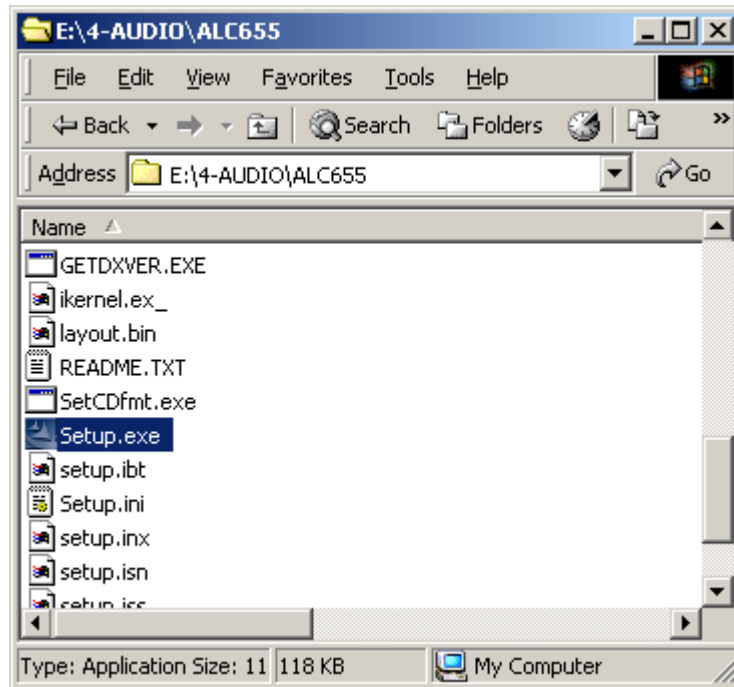

Figure 7-42: Locate the Setup Program Icon
Step 6: A new window opens (Figure 7-42).
Step 7: Double-click the **Setup.exe** program icon in Figure 7-42.